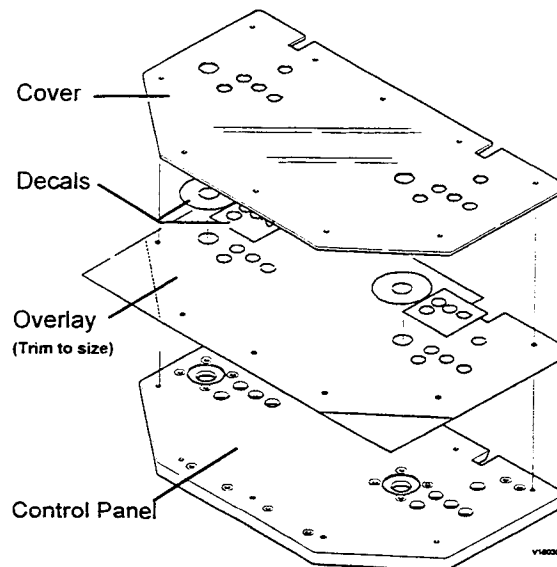

Figure 1: Overlay Installation
6. If there is an additional control panel cover, Figure 1 (such as plastic or lexan) that will be utilized, cut any additional holes using the same template.
Control Panel Overlay Installation (See Figure 1)
14. Install the control panel cover, FIG. 1. (if required).